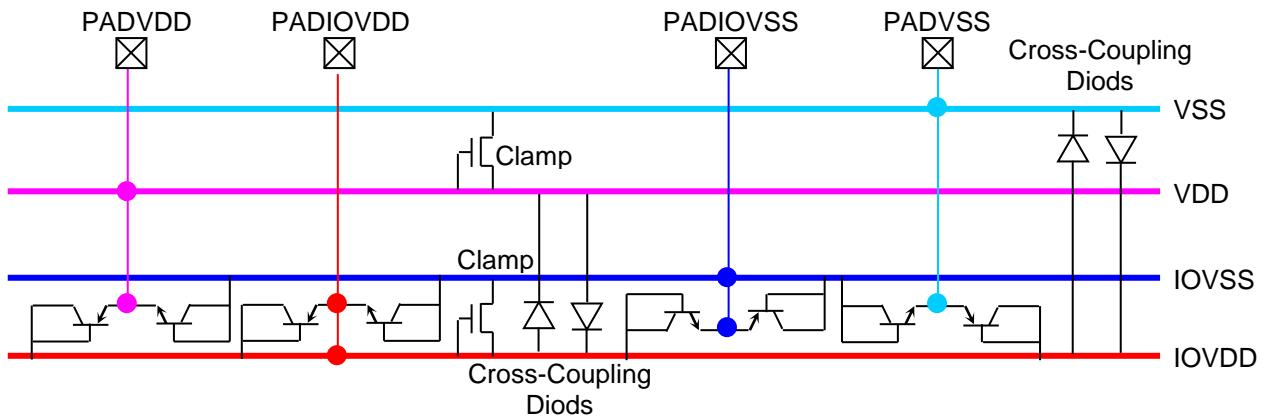

Figure 4.1. Implementation of ESD current paths
Special structures should be included in the I/O cells to protect against electrostatic discharge (ESD) for guaranteed minimum 2KV human-body model (HBM), 300V machine model (MM), and 400V and latch-up of up to 100mA (figure 4.1).
NFIN Clamp circuit will be utilized on all power supply buses and will be included in the Power and Ground pads to minimize the voltage spike present at the gates of internal circuits and to alleviate some of the current stress on the ESD/latch-up structures (figure 4.1).